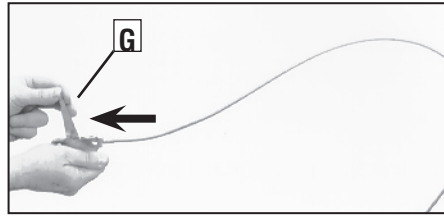

Figure 2-5: Carefully unwrap Wheel Gear Lever and move lever to DISENGAGE.
9. To remove the tiller from its shipping platform, first carefully unwrap the wheel gear cable (with attached lever - see Figure 2-5) from around the chassis. Move the Wheel Gear Lever (G) to the DISENGAGE position--this allows the wheels to rotate freely. Use the handlebars to roll the tiller off the platform.